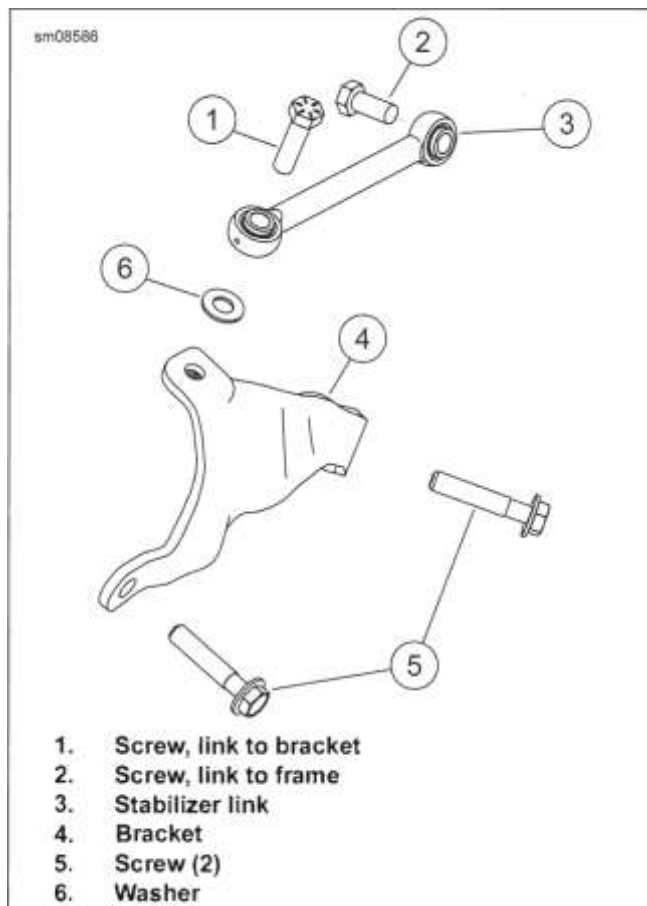

Figure 4-16. Engine Stabilizer
1. See Figure 4-16. Remove screws (1,2) and washer (6).
- Remove stabilizer link (3).
- See Figure 4-16. Install washer (6).
- See Figure 4-16. Remove screws (5).
- Remove bracket (4).
- Install bracket (4).
- Install screws (5). Tighten.